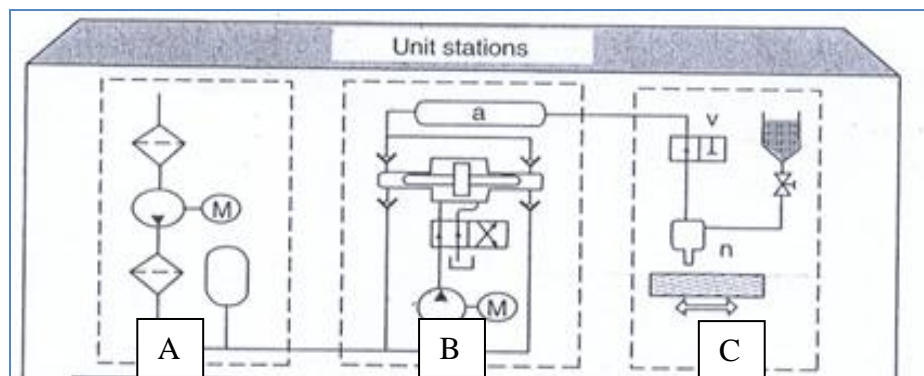

Figure 1
- (b) With the aid of a diagram in figure 1, explain the process of Water Jet Machining system at each station (A, B & C).